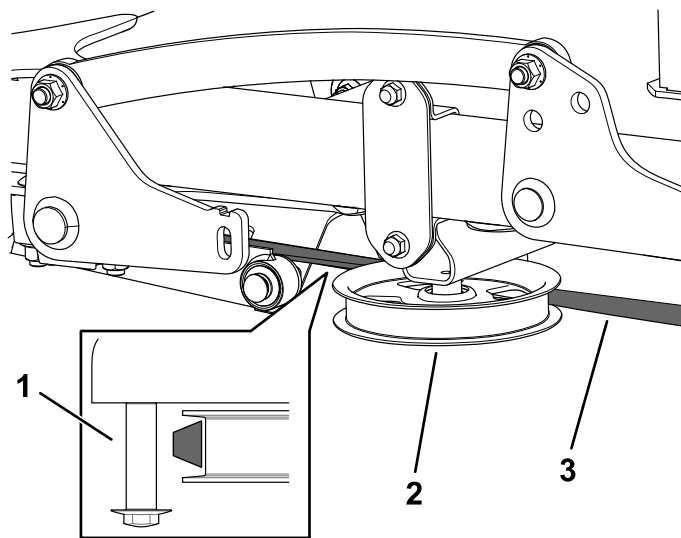

Figure 17
**Important:** Ensure that the wide side of the belt contacts the pulley as shown in Figure 17. Use the shoulder bolt as a guide for the belt.